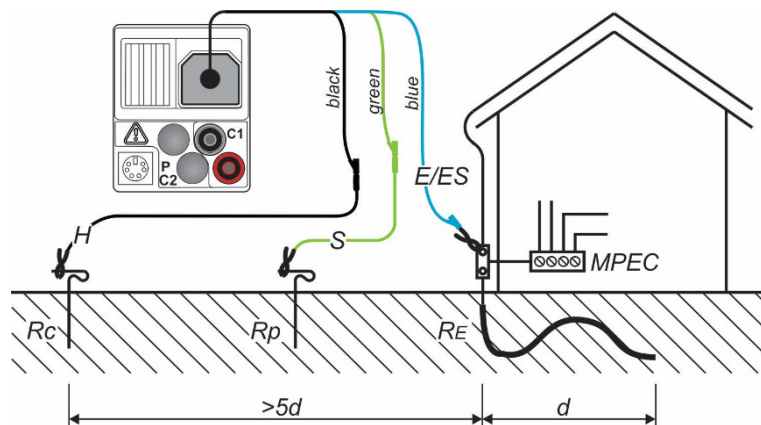

Figure 5.33: Connection of the optional earthing kit (044113)
- Connect the test cables to the test object (see figure 5.33 and 5.34)
- The probes must be positioned with sufficient distance from the test object. The distance between the earth connection (E/ES) and the probe (H) should be at least five times larger than the depth or length of the earth connection (see figures 5.33 and 5.34).
5.8 Testing the protective conductor connection (PE)